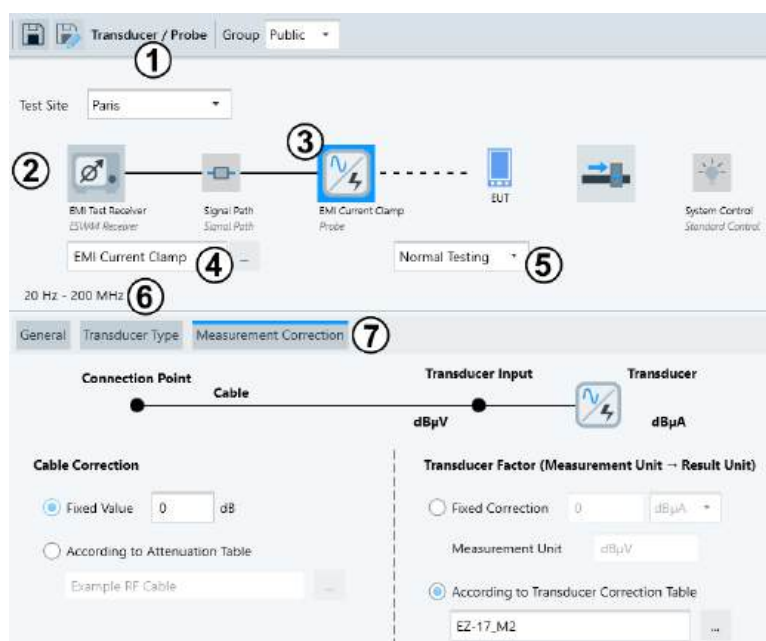

Figure 4-131: Example of an EMI hardware setup dialog (here: Transducer / Probe)
In contrast with hardware setups for EMS tests, you cannot define frequency ranges for EMI hardware setups. Instead, each EMI hardware setup is valid for the full frequency range (labeled (6) in Figure 4-131) that is jointly covered by the referenced devices.
To select a device or a signal path for integrating it into the hardware setup diagram, click its icon. For example, click the transducer icon (labeled (3) in Figure 4-131).